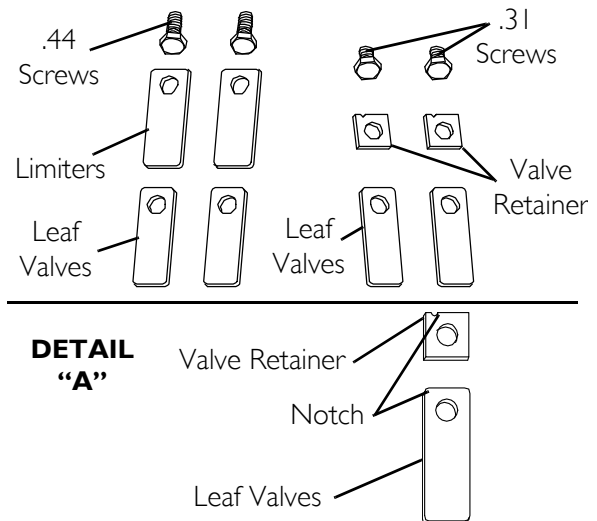
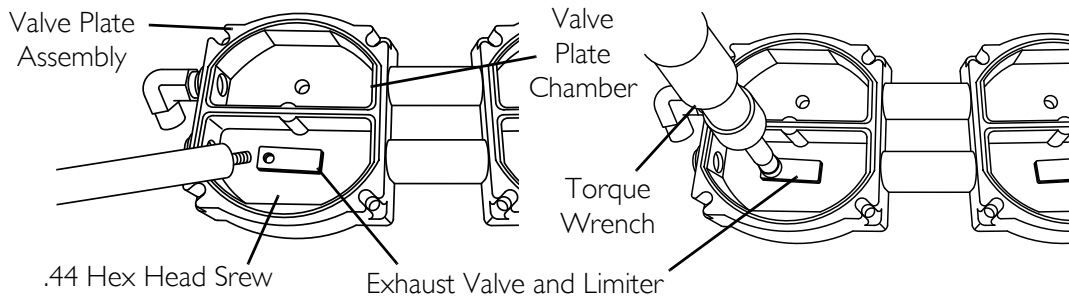

FIGURE 7.15 New Valves, Limiters, Screws
FIGURE 7.17 Installing New Exhaust Valves And Limiters
NOTE: For this procedure, refer to FIGURE 7.15, FIGURE 7.16 on page 46, and FIGURE 7.17 on page 47.
NOTE: Notice that the leaf valves and the valve retainers have a notch that should be oriented in the top left corner when installed (See Detail "A" in FIGURE 7.15).
4. Turn the valve plate assembly over and install the new exhaust valves with limiters in the valve plate assembly (FIGURE 7.17).